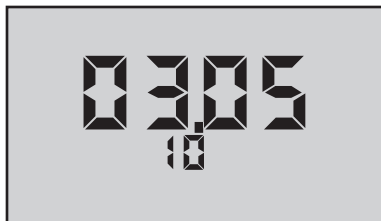

Figure 12
Example shown in Figure 12 is in US format, i.e., mo/dy/yr.
2. Press $\frac{\text{MR}}{\blacktriangledown}$ repeatedly until the date is displayed (scrolling through stored readings, PC OFF, CLR ALL and time to the date, e.g., **03.05.10** (Figure 12), March 5, 2010).